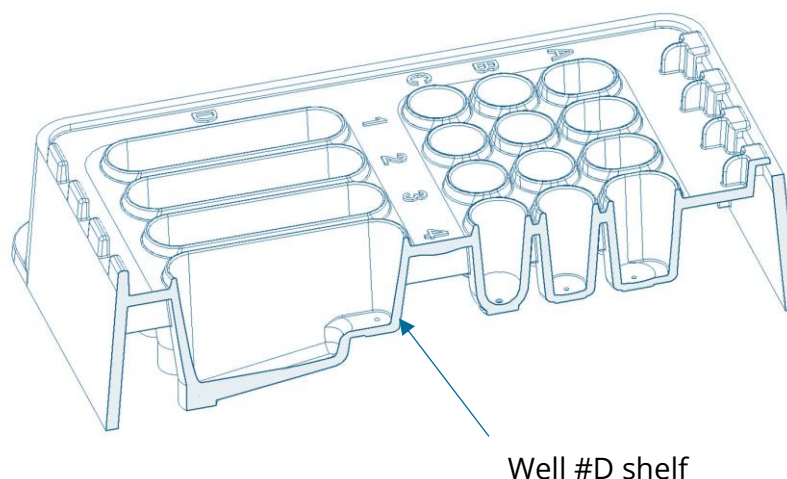

Fig. 2.4. Cross section of the Xdrop DE20 Cartridge. Note the location of the shelf in well #D.
4. Unpack the cartridge and place it on a clean, flat surface in a LAF (laminar air flow) cabinet or a similar clean, dust-free environment. The layout of the Xdrop DE 20 Cartridge is shown in Fig. 2.3. A cross-section of the cartridge is shown in Fig. 2.4.
11. Load **40 µl** of the outer phase (e.g., medium with Stabilizing Solution or DE PCR buffer) onto the shelf of the collection well (**#D**; Fig. 2.4).
13. Load **100 µl** of Droplet oil (DE) • into well **#B**.